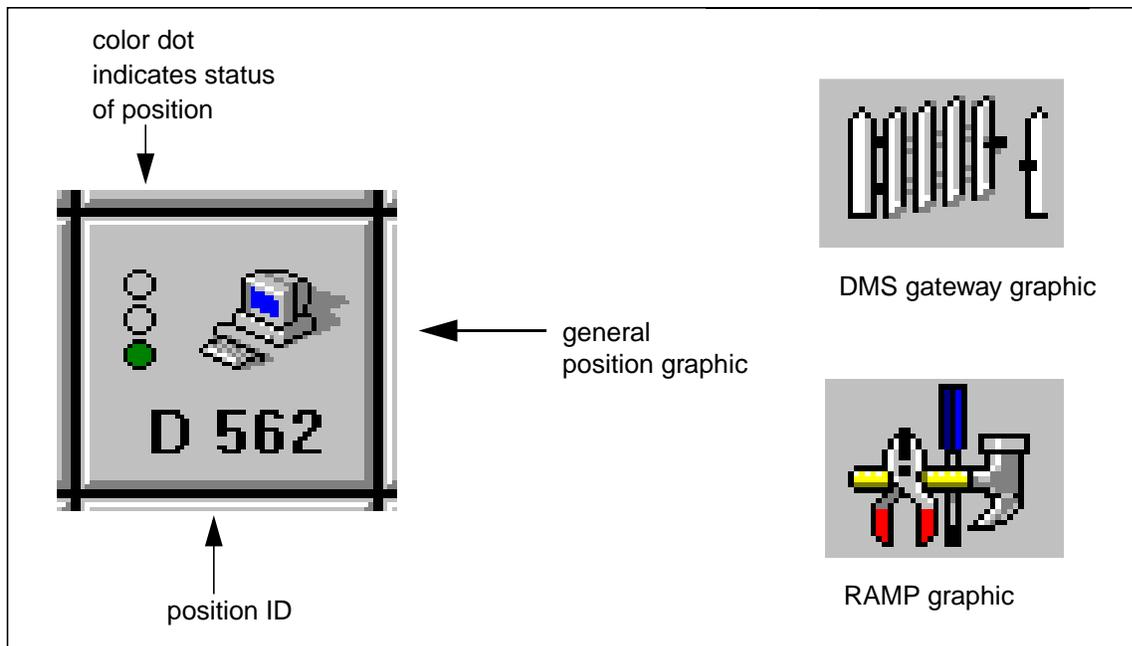

FIGURE 11. Position type, status, and ID
- The position ID shows in the lower portion of the graphic. An example of an ID number is D562 as shown in Figure 11. “D” indicates the position has communication with the DMS switch. The three-digit number signifies the ID number specified in the DMS switch for that position. The ID is also specified in file MPXNET.INI. If the position is not communicating with the DMS switch, an “L” shows in place of a “D,” followed by a LAN position number. For example, see position L2 in Figure 10, “LAN Status window,” on page 27.